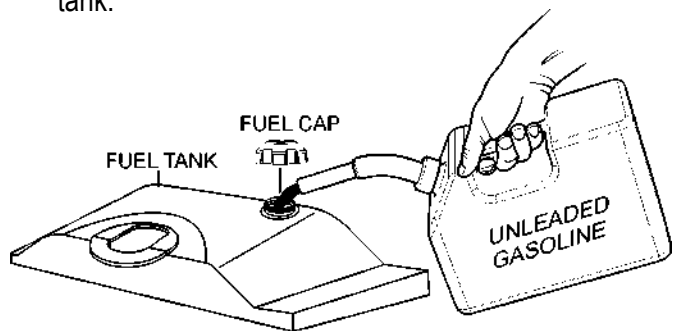

Figure 6. Fuel Tank
1. Remove the fuel cap (Figure 6) located on top of fuel tank.